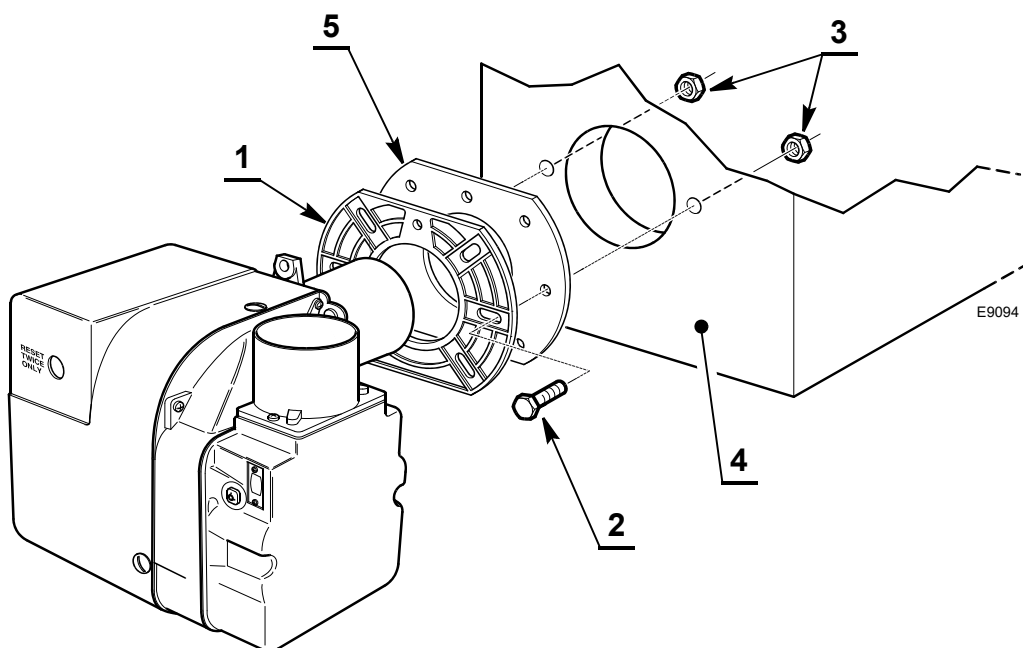

Fig. 6
- Fix the flange 1)(Fig. 6) to the boiler door 4) using screws 2) and (if necessary) the nuts 3) interposing the insulating gas-ket 5).